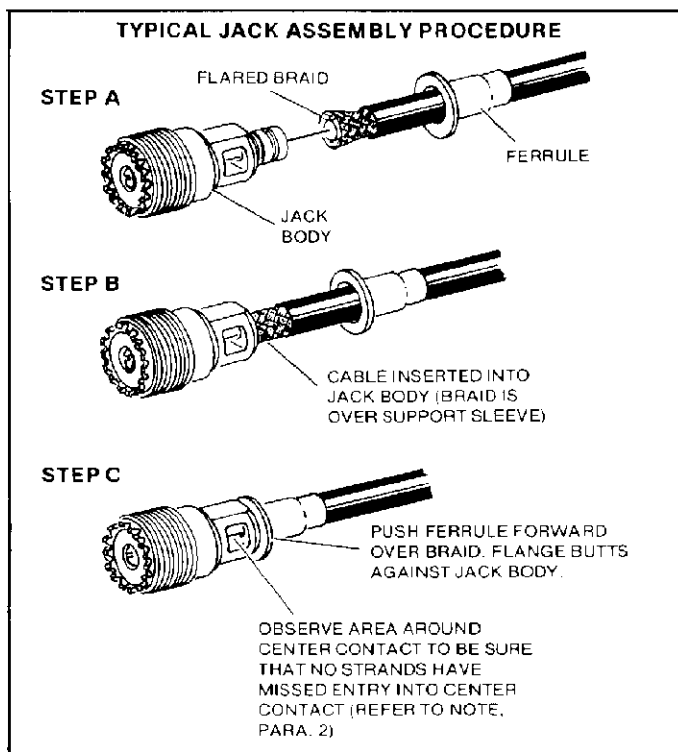

Figure 5
Series UHF jacks are assembled for crimping as shown in Figure 5.
- Slip ferrule over cable. See Figure 5, Step A.
- Insert stripped cable into jack body until cable dielectric butts against contact inside body. Braid fits over support sleeve. See Step B, Figure 5.
- Slip ferrule over braid, butting flange against jack body as shown in Figure 5, Step C.